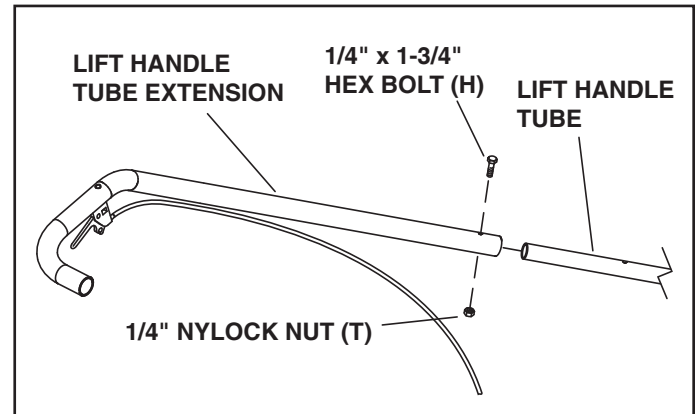

FIGURE 11
STEP 12: INSTALL LIFT HANDLE TUBE EXTENSION (SEE FIGURE 11)
- Install the lift handle tube extension on the lift handle tube using a 1/4" x 1-3/4" hex bolt (H) and 1/4" nylock nut (T).